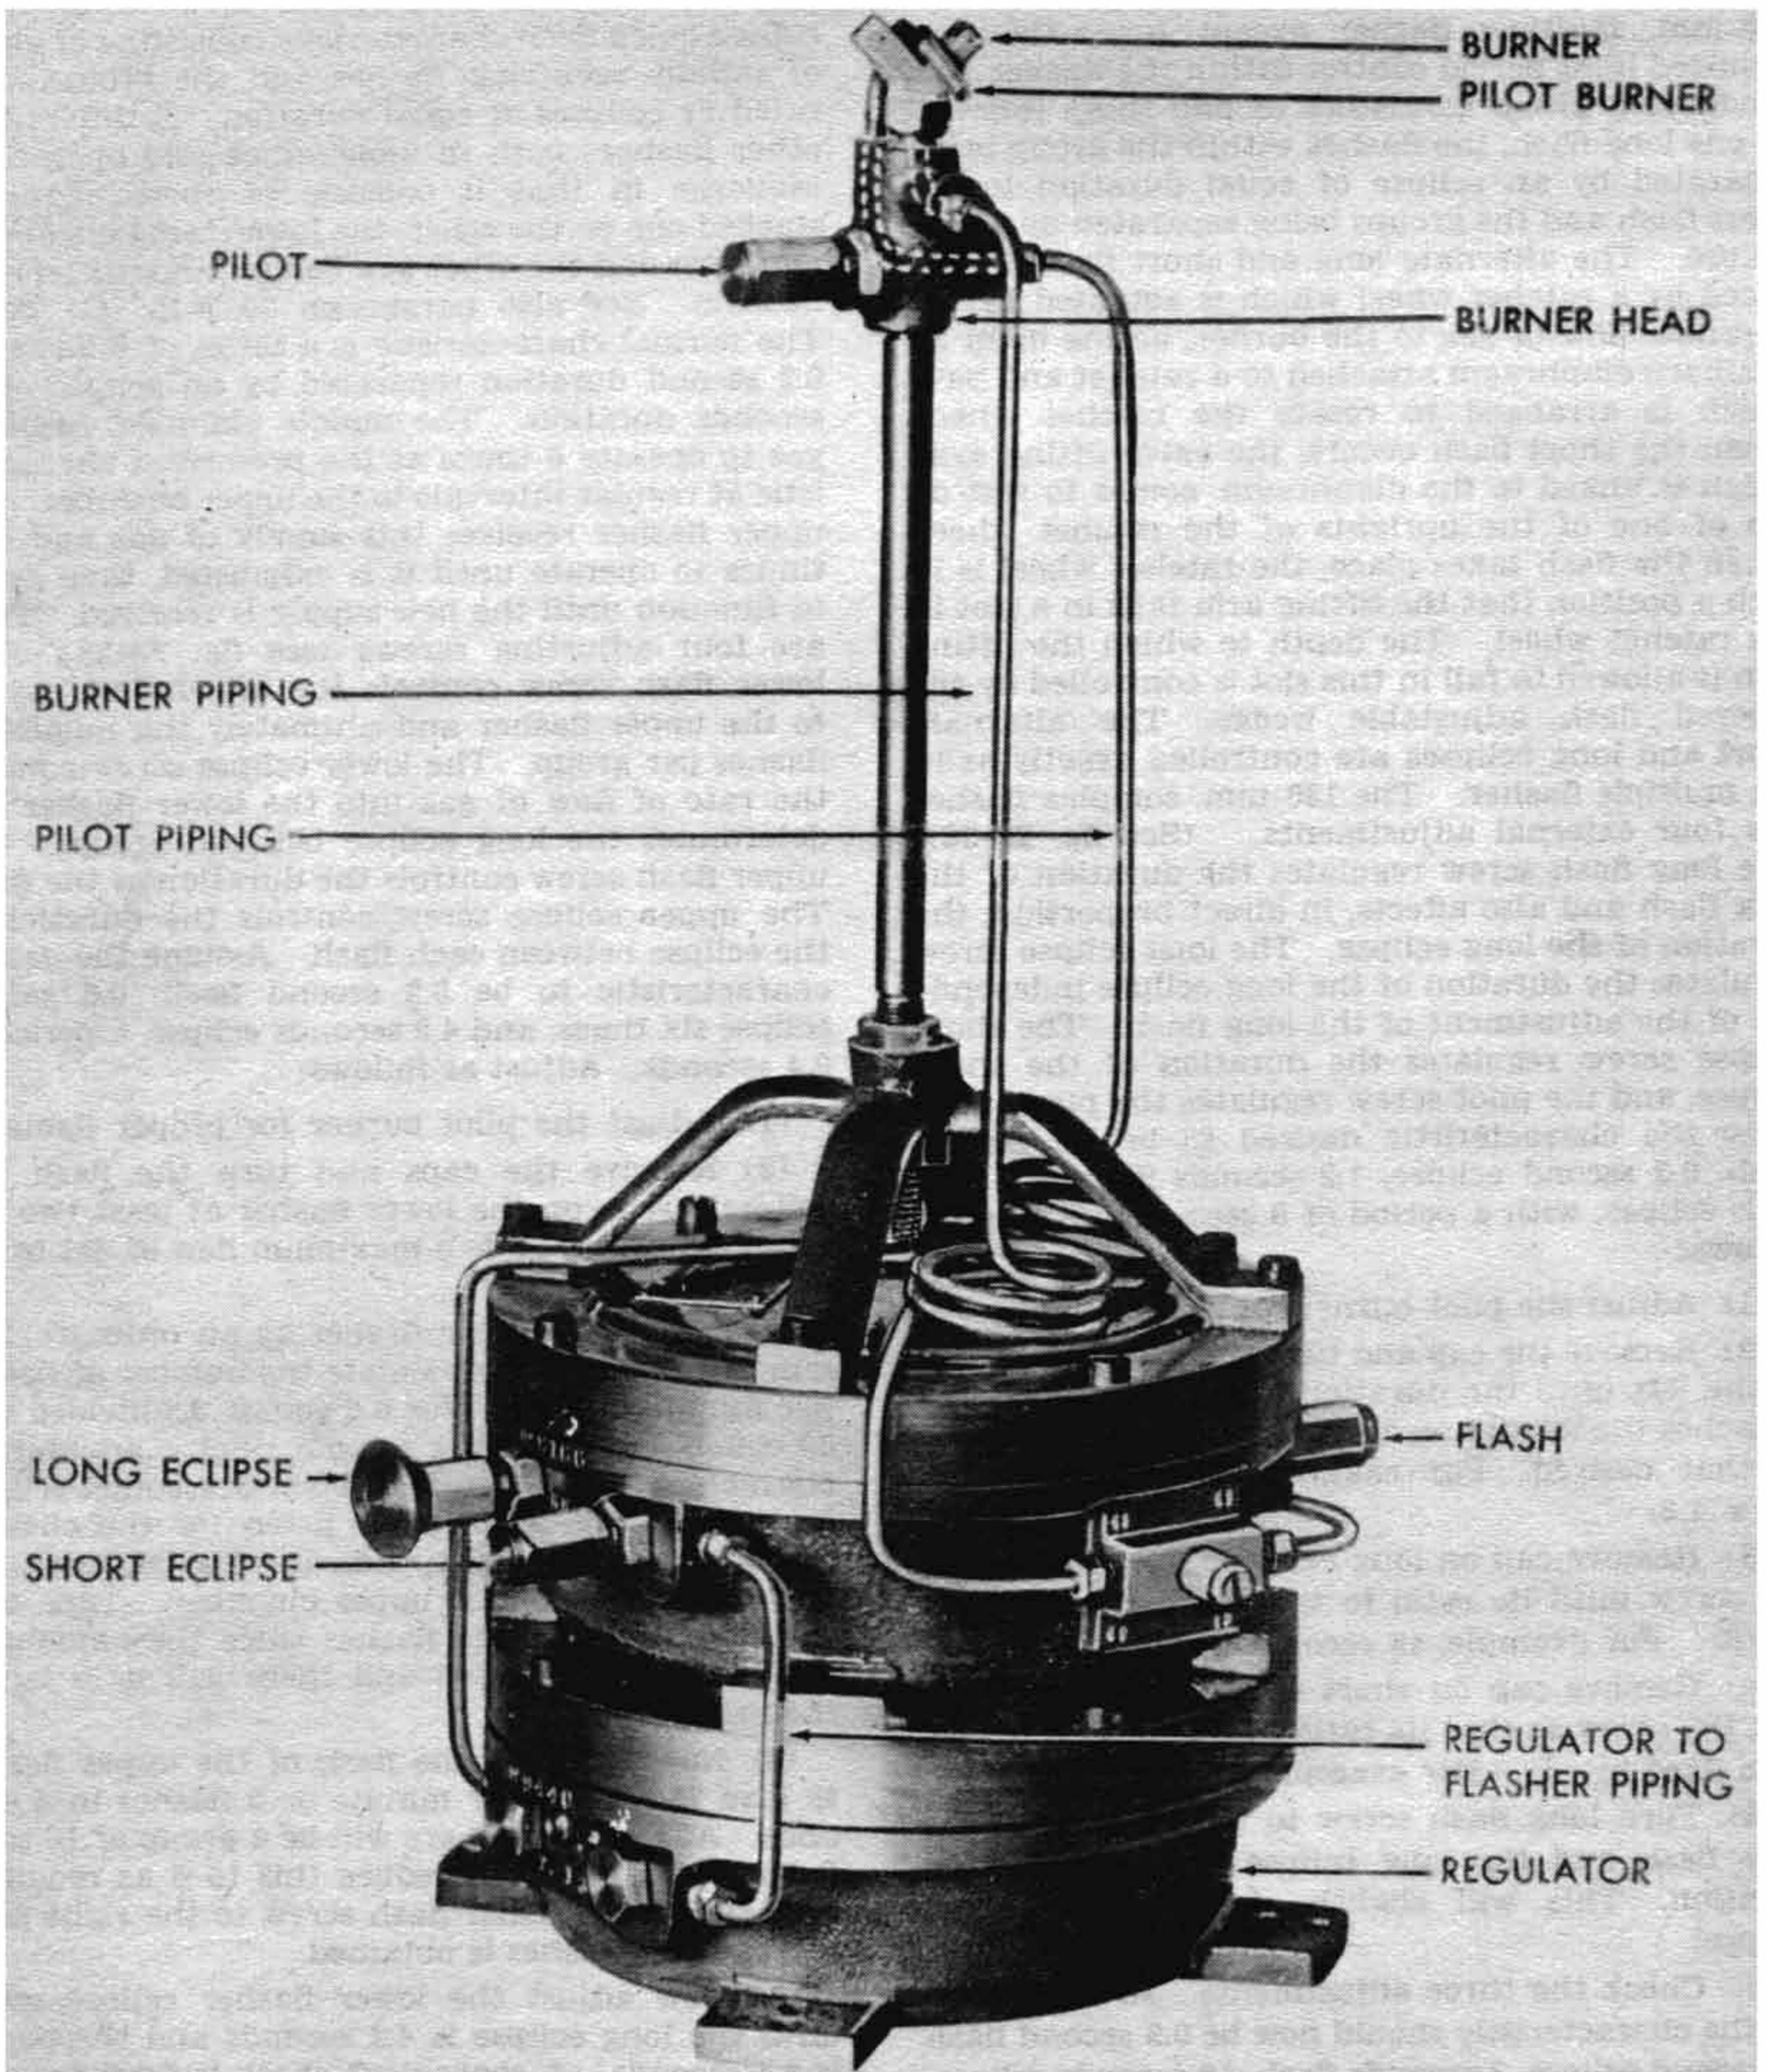

FIGURE 20-36.—130-mm. complex flasher-regulator.
E. 130-mm. complex short-long flasher-regulator.—This flasher is similar in all respects to the 130-mm. multiple flasher except for a factory-adjusted light period control within the flasher, and produces a group consisting of one short followed by one long flash, the flashes within the group being separated by an eclipse of equal duration to the short flash and the groups being separated by a long eclipse. The alternate long and short flash is produced by a ratchet wheel which is actuated by the alternate flow of gas to the burner, acting upon an auxiliary diaphragm attached to a ratchet and pawl which is arranged to rotate the ratchet wheel. When the short flash occurs, the valve lifting arm, which is linked to the diaphragm, comes to rest on top of one of the uprights of the ratchet wheel. When the flash takes place, the ratchet wheel is in such a position that the lifting arm falls in a slot in the ratchet wheel. The depth to which the lifting arm is allowed to fall in this slot is controlled by the tapered flash adjustable wedge. The alternate short and long eclipses are controlled exactly as in the multiple flasher. The 130-mm. complex flasher has four external adjustments. (See fig. 20-36). The long flash screw regulates the duration of the long flash and also affects, in direct proportion, the duration of the long eclipse. The long eclipse screw regulates the duration of the long eclipse independent of the adjustment of the long flash. The short eclipse screw regulates the duration of the short eclipse, and the pilot screw regulates the pilot. Assume the characteristic desired to be 0.3 second flash, 0.3 second eclipse, 1.2 seconds flash, 7.2 seconds eclipse, with a period of 9 seconds. Adjust as follows:
- (1) Adjust the pilot burner for proper flame.
- (2) Remove the cap and turn the long flash screw to the left until the duration of the long flash approaches the maximum and is a convenient multiple of that desired. For example, 3 seconds equals 2.5×1.2 .
- (3) Remove cap on long eclipse screw and adjust the screw until its ratio to that desired is as fixed by (6). For example, 18 seconds equals 2.5×7.2 .
- (4) Remove cap on short eclipse screw and adjust the screw so that its ratio to the desired eclipse is as fixed by (6). For example 3.0 equals 2.5×1.2 .
- (5) Turn long flash screw to the right until the long flash and the long eclipse have the desired duration. This will slightly decrease the short eclipse.
- (6) Check the three adjustments. In the example the characteristic should now be 0.3 second flash 0.3 second eclipse, 3 seconds flash, 18 seconds eclipse, or a period of 21.6 seconds.
(7) Turn the long flash screw to the right until the flash rate is 10 double flashes in 90 seconds.
- (8) Replace caps.